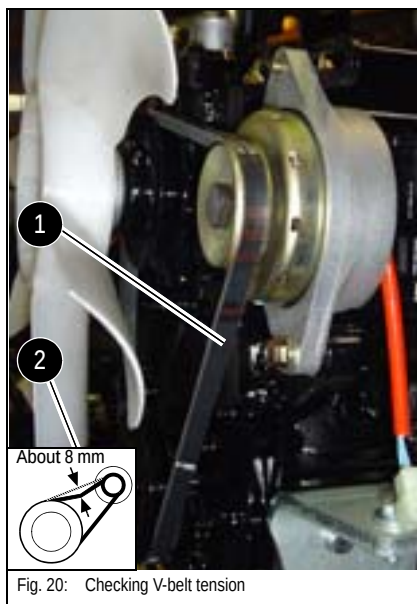

Fig. 20: Checking V-belt tension
- ☞ Press with your thumb to check the deflection of the V-belt between the crankshaft disc and the fan wheel (2). A new V-belt should have a deflection of 6 to 8 mm (0.2" - 0.3"), a used V-belt (after about 5 minutes running time) should have a deflection of 7 to 9 mm (0.3" - 0.35") (fig. 20).